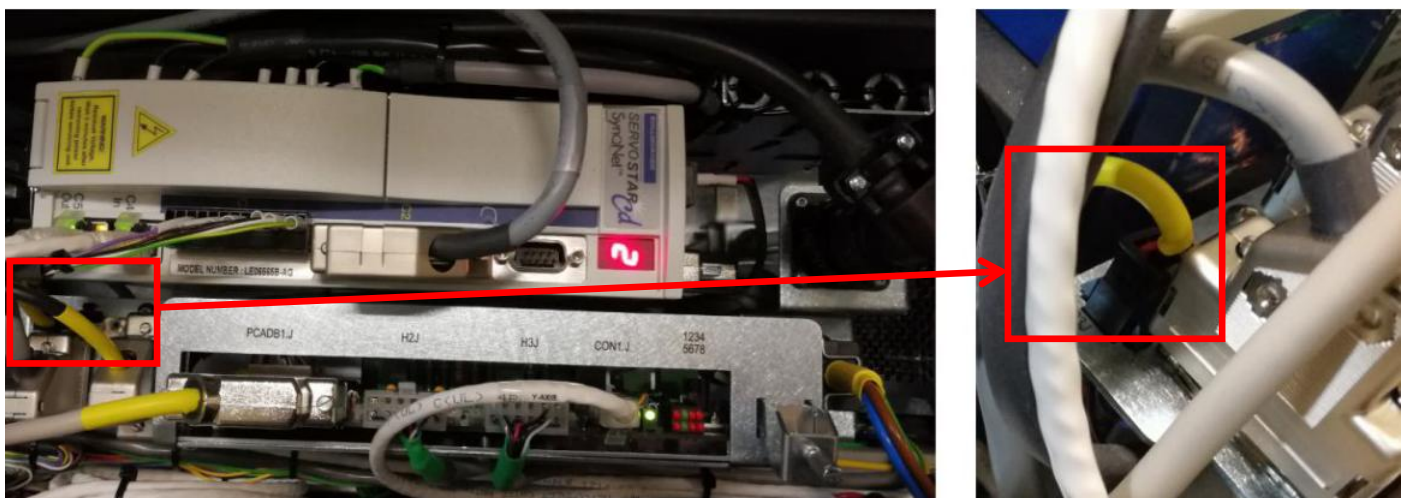

Figure 28
33. Connect 1x Connector (24VDC) at 03J as Figure 28.